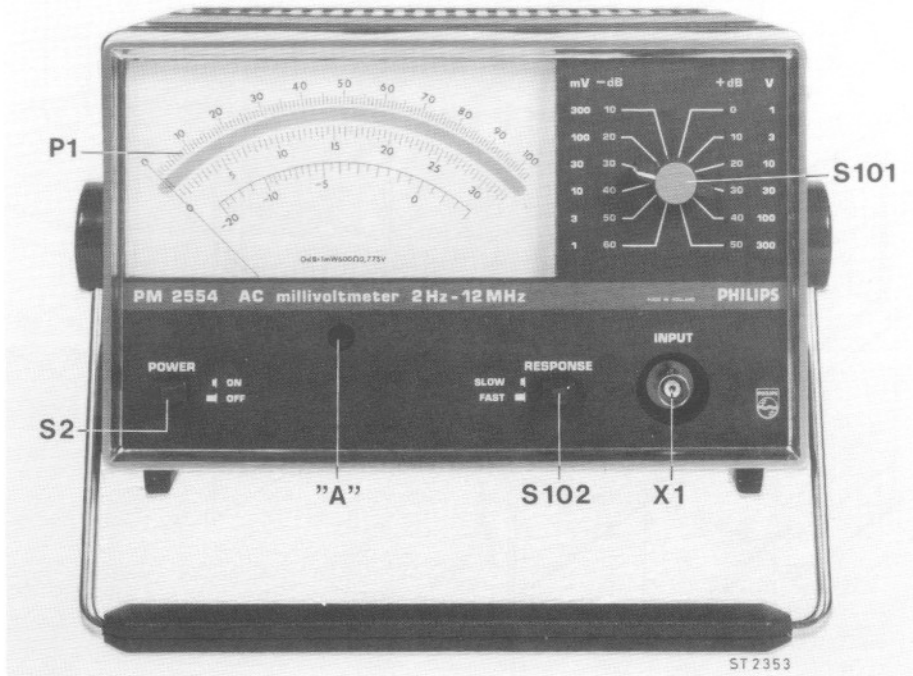

Fig. 4.
- If necessary correct the setting by means of plastic screw "A", fig. 4 (page 26)